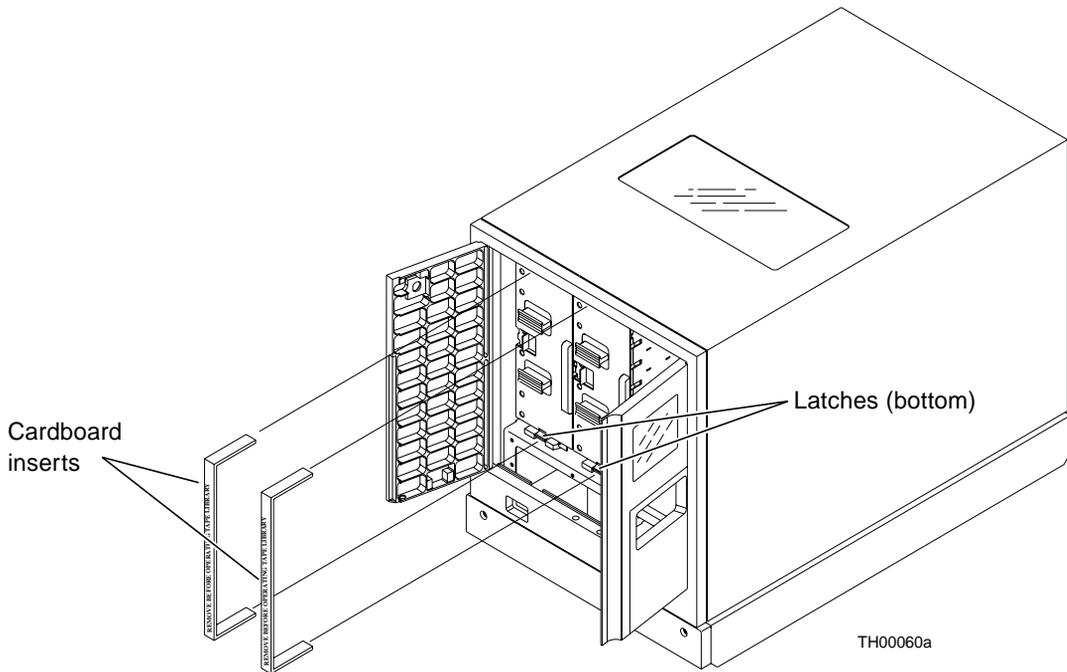

FIGURE B-4 Securing the Load and Bulk Pack Latches
2. **Secure the load and bulk pack latches with cardboard inserts as shown in FIGURE B-4.**